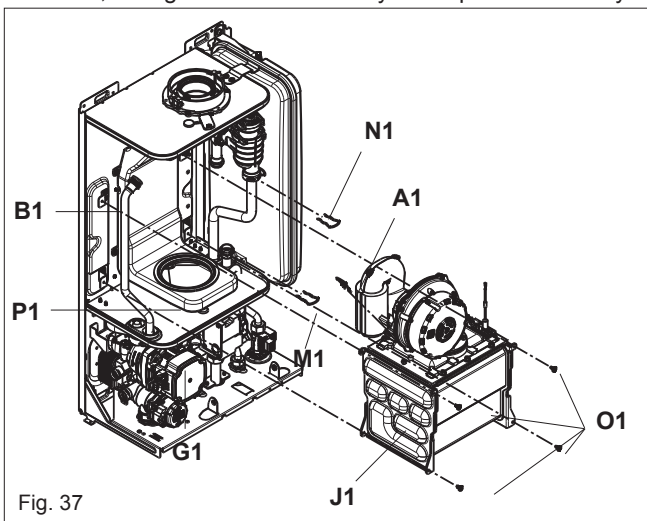

Fig. 37
6.17 MAIN HEAT EXCHANGER (fig. 37)